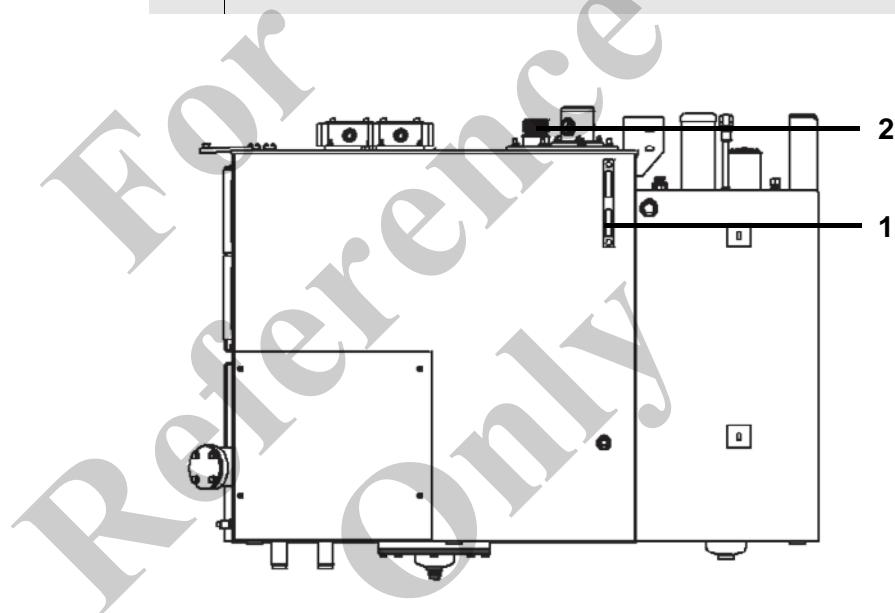

Fig. 16 Oil level indicator and filler neck on combination tank
8	Check the oil level on the oil level indicator (1) in Fig. 16: The oil level must reach the middle of the sight glass.
9	Top up hydraulic oil if necessary: <ul style="list-style-type: none"> Open the cover or remove the cover of the additional tank opening. Unscrew the cap (2) in Fig. 16 of the oil filler neck. Top up hydraulic oil and re-check. Reinstall the screw cap. Fit the lid or reinstall the cover.